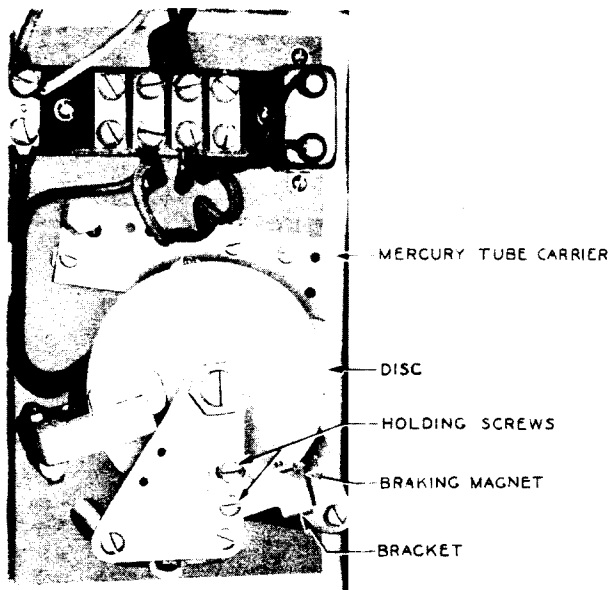
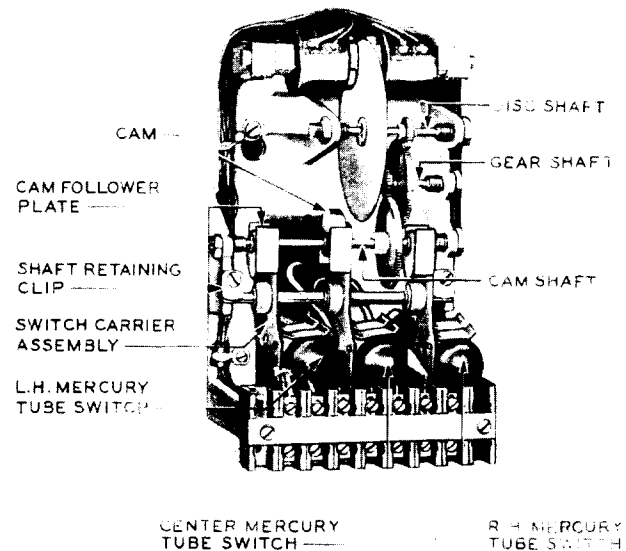
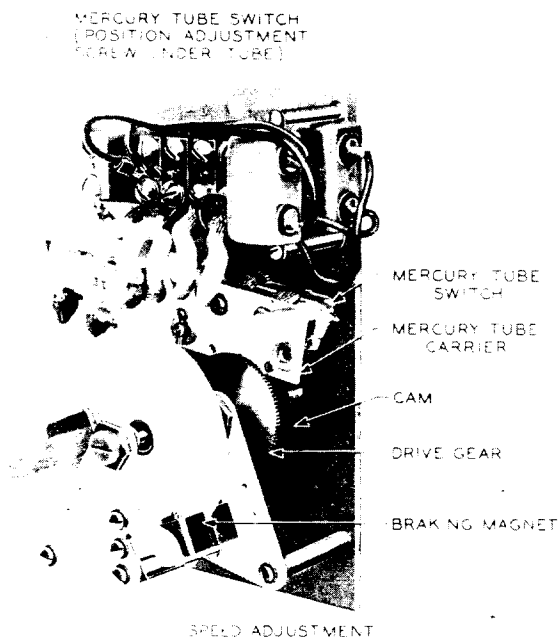
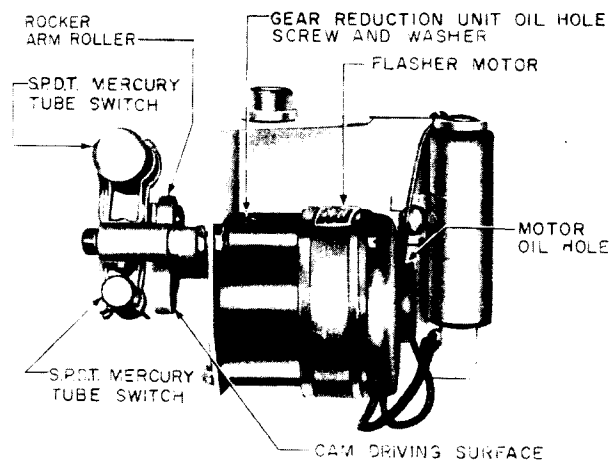

Fig. 3—Single-Circuit Flashing Switch
Fig. 5—3-Circuit Flashing Switch (Crouse-Hinds Company)
Fig. 4—2-Circuit Flashing Switch
Fig. 6—3-Circuit Flashing Switch (Hughey & Phillips Incorporated)
1.07 The Crouse-Hinds Company 46777AT single-circuit flashing switch is shown in Fig. 3; the 46779AT 2-circuit flashing switch is shown in Fig. 4; the TL1941 3-circuit flashing switch is shown in Fig. 5; and the Hughey & Phillips, Incorporated 3-circuit flashing switch is shown in Fig. 6. The switches contain a motor which, through appropriate gearing, drives a cam that rocks a mercury tube carrier up and down, thereby operating the mercury tube switch or switches on and off as the motor rotates.
(a) **Single- and 2-Circuit Switches (Fig. 3 and 4)**
Note: Make or break can be determined by observation of series pilot lamps in the associated circuit. For proper operation, flashing switch mounting panels should be mounted plumb. Unless positioned approximately as shown in Fig. 4, the four flexible leads running from the mercury tube carrier may prevent the carrier from completing its full motion. Rearrange leads as necessary.
(b) **3-Circuit Switch (Fig. 5)**
(c) **3-Circuit Switch (Fig. 6)**
- (1) To lubricate the motor and the gear reduction unit, apply oil to the motor oil hole; and on the gear reduction unit, remove the round head screw and washer (Fig. 6) and apply oil in the screw hole. Apply a thin coat of cam lubricant ♦KS-7471♦ to the cam driving surface.
- (2) No provisions are made for the adjustment of the tilt switches. Replacement tilt switches are premarked for installation in a properly level unit.